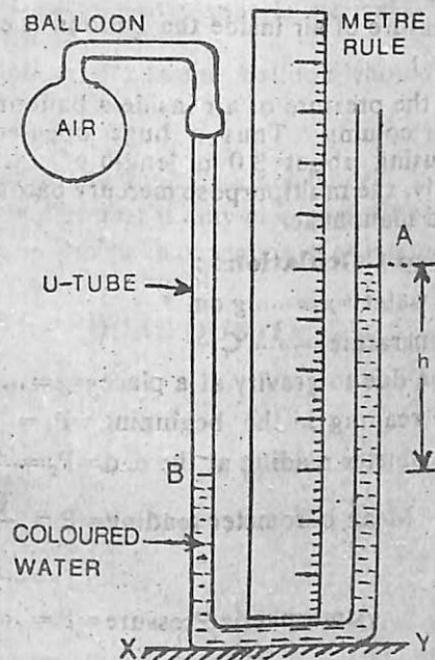

Fig. 26.1 (Water Manometer)
A water manometer consists of a U-tube containing coloured water (Fig. 26.1.).
The pressure of air inside the balloon is more than the atmospheric pressure by an amount equal to  $hp$  where  $h$  is the difference in levels of water in the two limbs of the water manometer (Fig. 26.1);  $p$  is the density of water and  $g$  is acceleration due to gravity at a place.
- Blow a rubber balloon. Connect it to one of the limbs of the manometer containing coloured water as shown in Fig. 26.1.